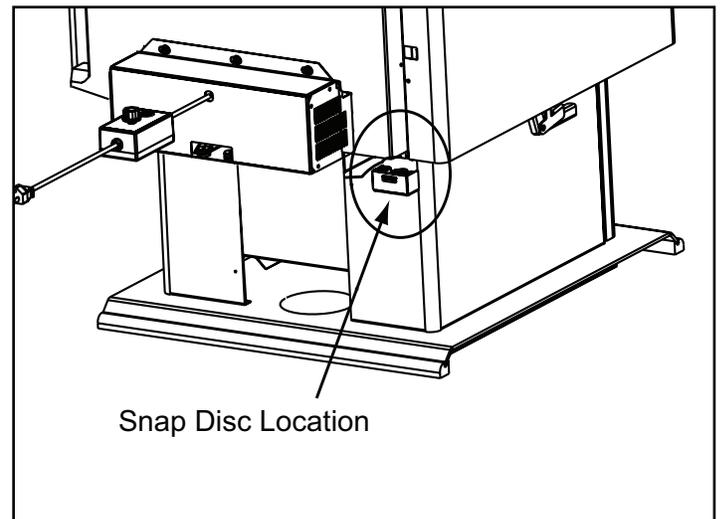

Figure 22.1
1. Disconnect power supply. Locate the snap disc bracket assembly at the bottom left rear corner of the appliance. **Figure 22.1.**